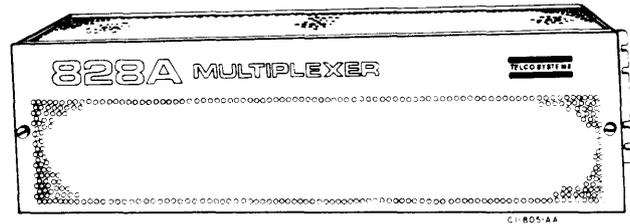
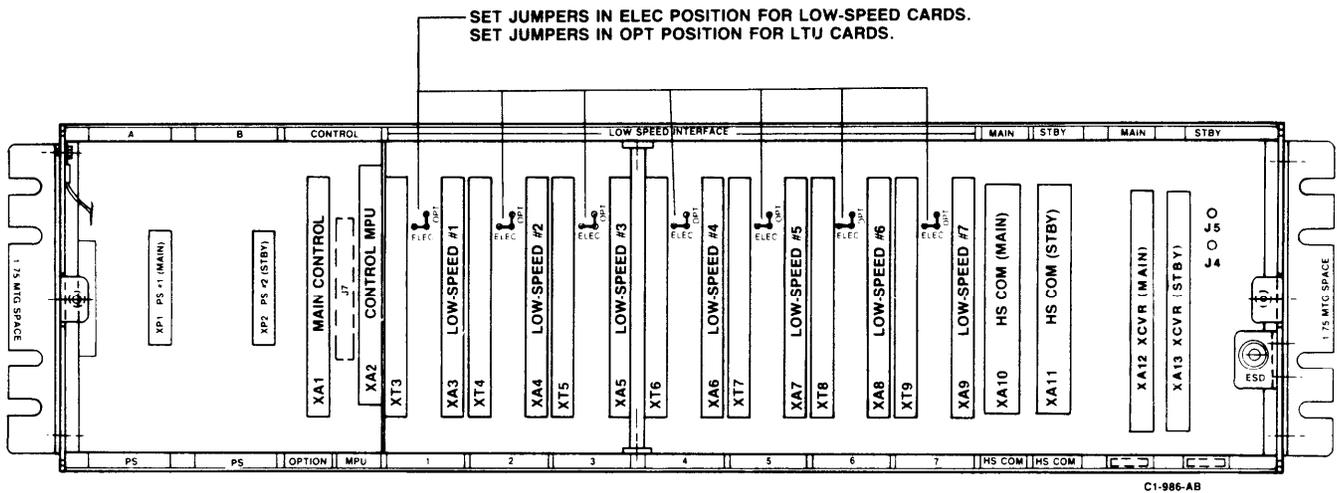

Figure 1-1. 828AF Digital Multiplexer
Figure 1-2. 828AF Digital Multiplexer (Cover Removed)
1.01 This section describes the basic functions and features of the 828AF Digital Multiplexer. Figure 1-1 shows the 828AF with its front cover installed. Figure 1-2 illustrates the unit with front cover removed to display the circuit card layout and unit-level design of the 828AF.